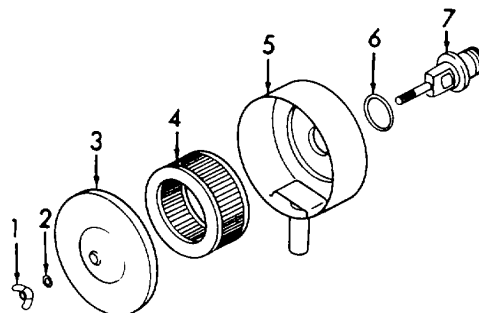

Figure 3-20. Air Cleaner, Installation.
- (1) Inspect for missing or damaged hardware.
- (2) Inspect cover for damage.
- (3) Inspect filter for damage or dirt.
- (4) Inspect screen for damage.
- (5) Inspect body for damage.
e. Installation. (Refer to Figure 3-20).